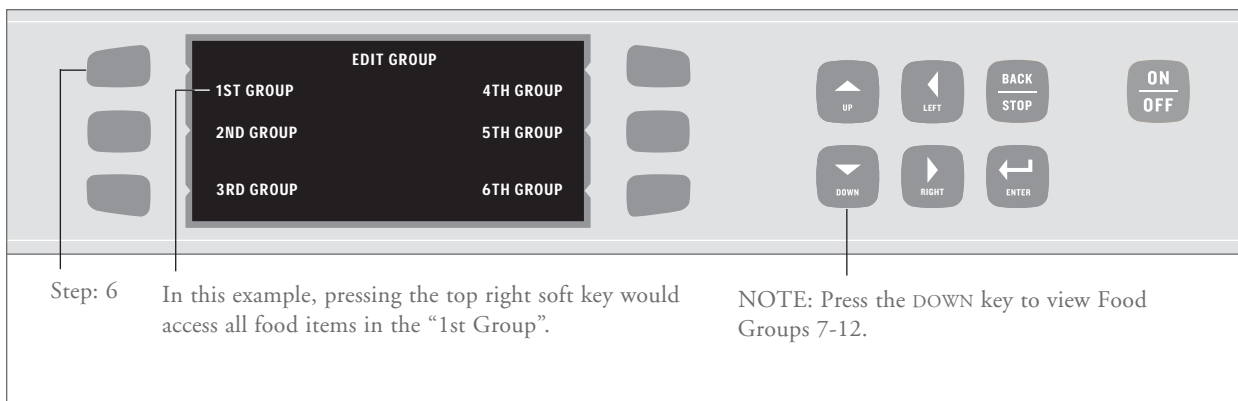

FIGURE 22: Modifying Recipes – Step 6
6. Select the food group that contains the item to be modified (Figure 22).